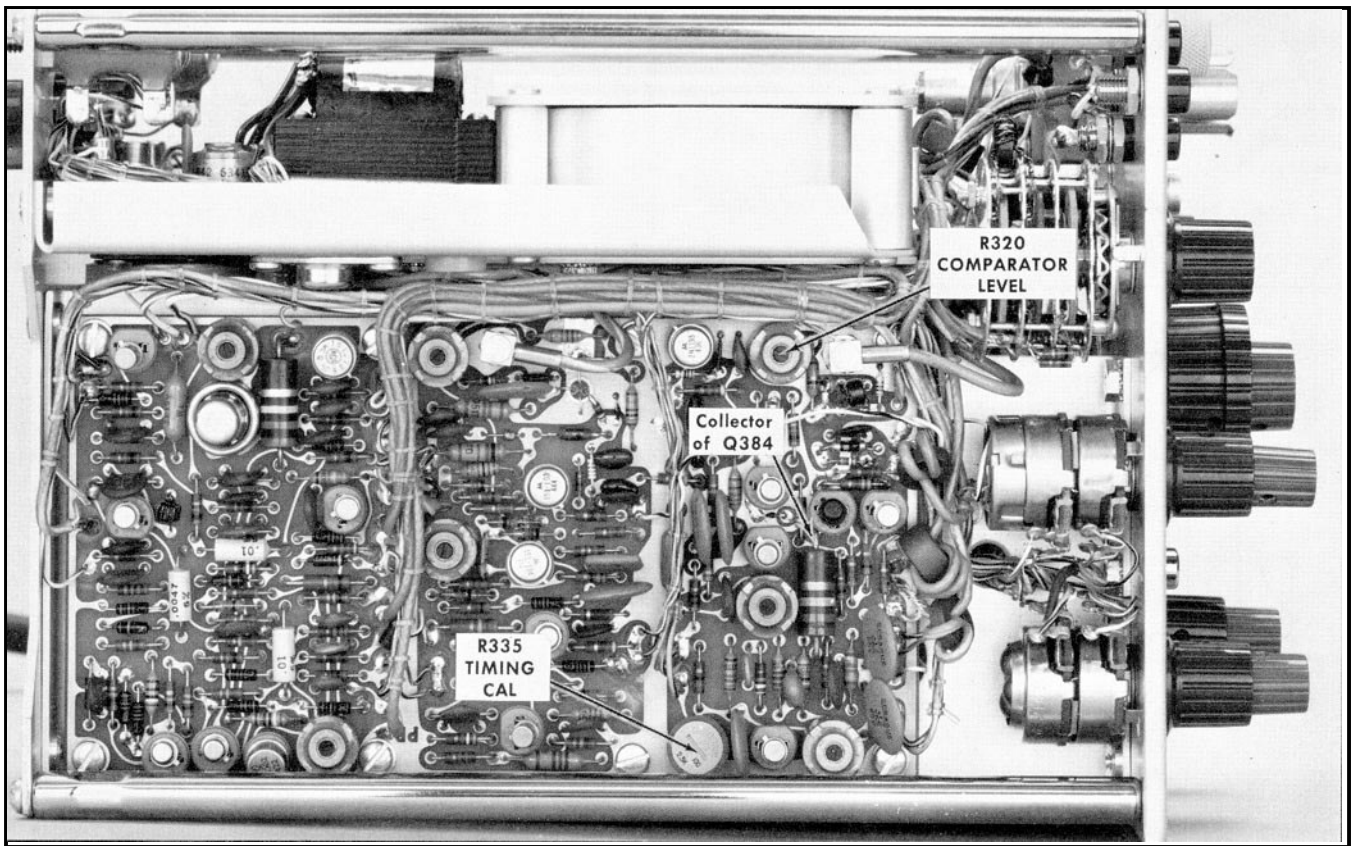

Fig. 5-18. Fast ramp and comparator adjustments on right side of Type 1S1 (unit is positioned upside-down on test bench).
z. Adjust R335 (TIMING CAL) if the timing is not correct. See Fig. 5-18 for the location of R335.
g. Connect the test probe to the collector of Q384 (See Fig. 5-18).
j. Adjust R320 (COMPARATOR LEVEL) if the display is not as indicated. See Fig. 5-18 for the location of R320.